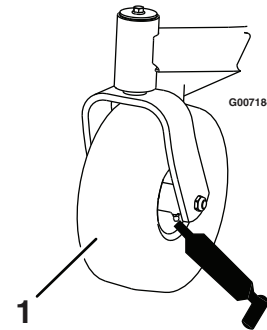
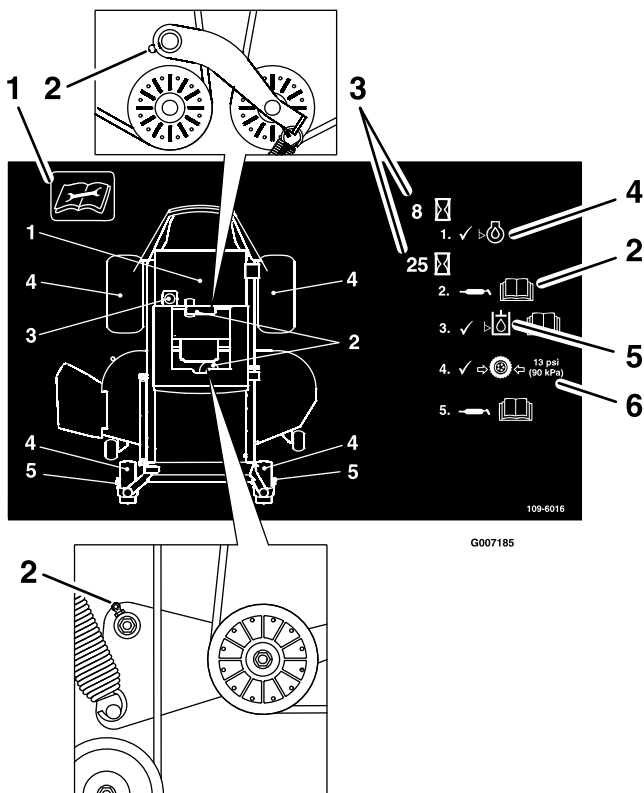

Figure 22
Figure 23
Grease the front caster pivots and wheels (Figure 22).
3. Clean the grease fittings (Figure 22 and Figure 23) with a rag. Make sure to scrape any paint off of the front of the fitting(s).
4. Connect a grease gun to each fitting (Figure 22 and Figure 23). Pump grease into the fittings until grease begins to ooze out of the bearings.